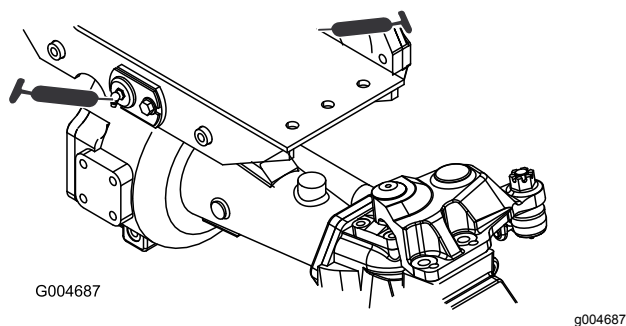

Figure 61
- Front and rear axle pivot bushings (2) (Figure 61)